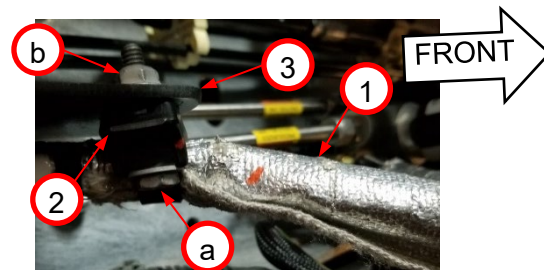

Figure 1a.
5. Use a wrench to remove flange head bolt (a) and nut (b) and two washers (not shown) from single tie clip (2) securing low pressure (LP) flexible fuel hose (1) to LP filter bracket (3). *Figure 1a*
Install two single strap clips (2), p/n 61090092, on LP flexible fuel hose (1) at LP filter bracket (3) and transmission bracket (13). *Figures 1a and 1b*
9. Install single strap clip (2), on LP fuel filter bracket (3) using bolt (a) and nut (b) and two washers (*not visible*). *Figure 1a*